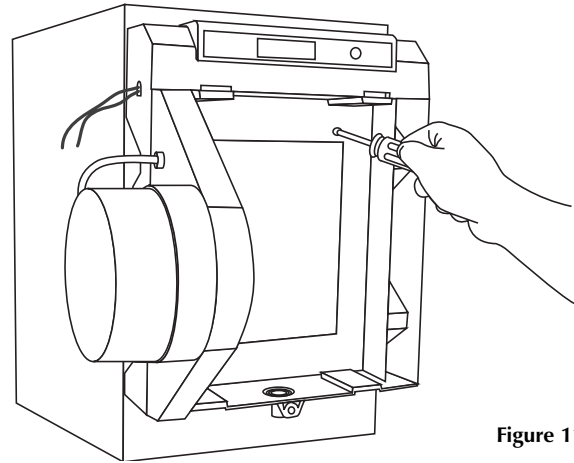

Figure 11
- Mount the humidifier cabinet on the duct with 4 of the screws from the installation package. Level the humidifier before tightening the screws. (fig. 11)